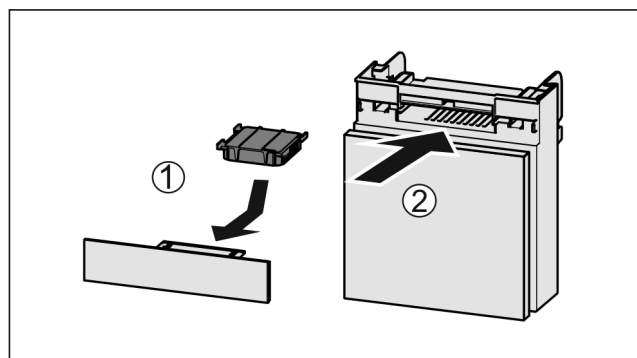

Fig. 198
- Insert the carbon filter as shown in the diagram Fig. 198 (1).
- Push the compartment in Fig. 198 (2).